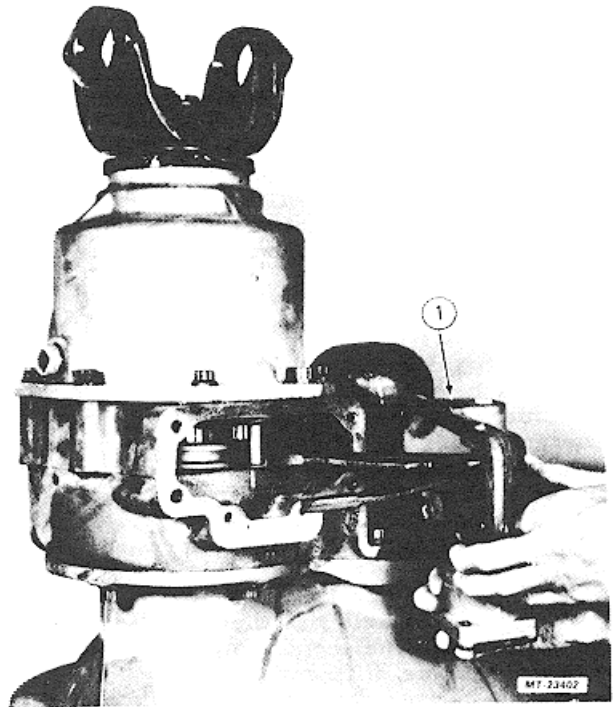

Fig. 3. Removing Power Divider Lockout Control
1. Remove lockout control assembly (Fig. 3).